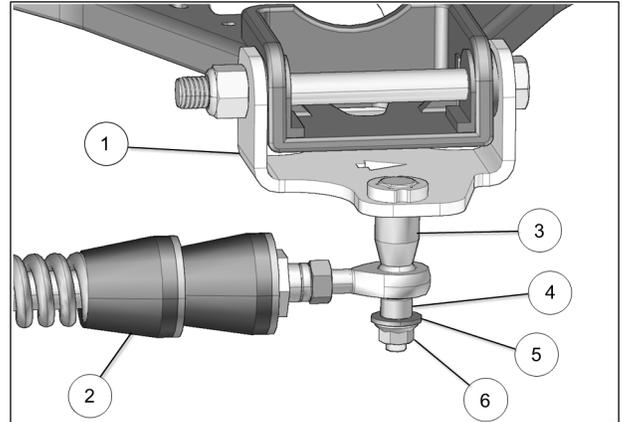

Fig. 14
14. Attach stabilizing rod (2) to anchor bracket (1), using the long spacer bushing (3), short spacer bushing (4), flat washer (5) and nut (6). Torque to 70 N•m [52 lb•ft]. See Fig. 14